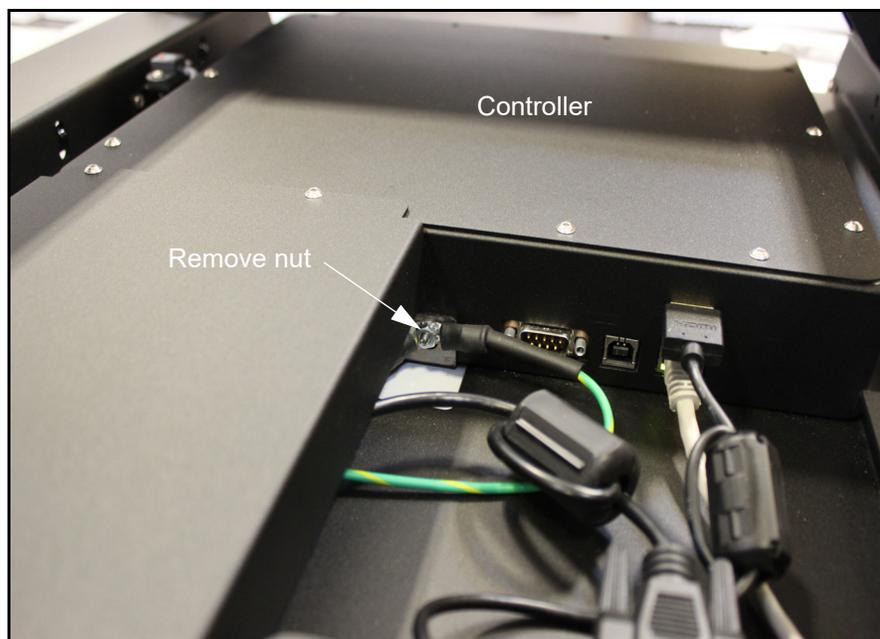

Figure 43
6. Remove the nut using a 3/8" nut driver (see Figure 43 above).